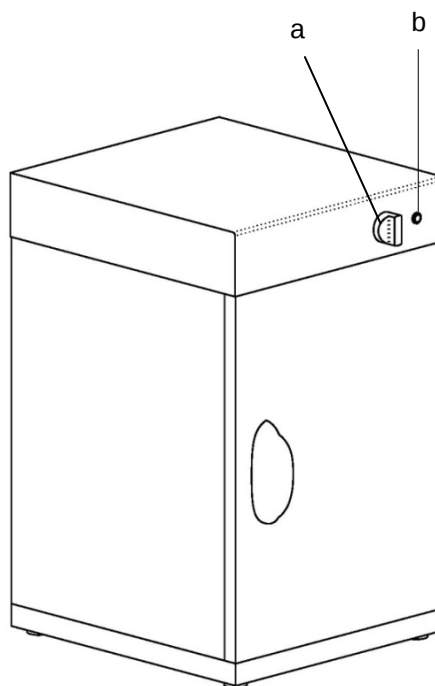

Fig.2
2. Turn the thermostat (a fig.2) until the temperature setting required is reached. The heating light (b fig.2) will come on and will go off when the set temperature is reached.
1. Put the thermostat (a fig.2) into position "0", and check that the thermostat light (b fig.2) is extinguished.